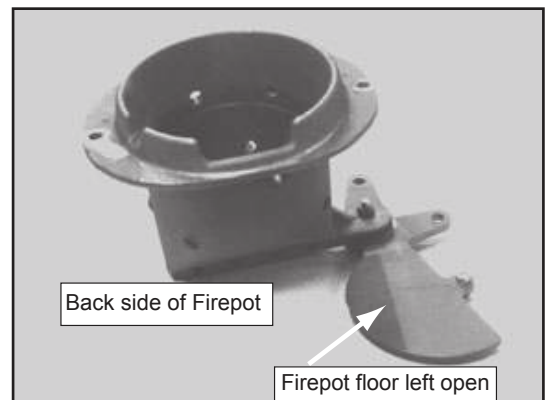

Figure 9.3 - DO NOT LEAVE FIREPOT FLOOR OPEN
- c. The firepot floor plate must be fully closed when finished. **See Figure 9.3 on page 9.**